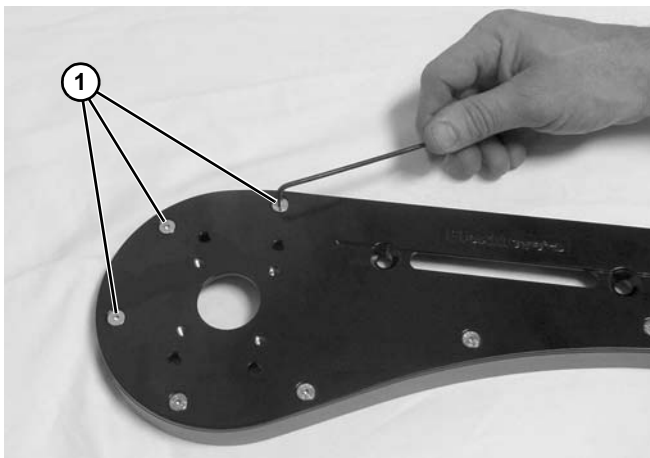

Figure 127
6. Remove three socket head screws (Figure 127, item 1).